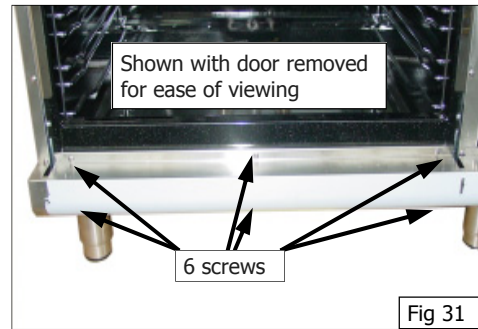

Fig 31
- a. With the gas supply turned off at the main supply, unscrew and remove the 6 screws securing the lower lintel to the front of the oven. (See Fig 31).